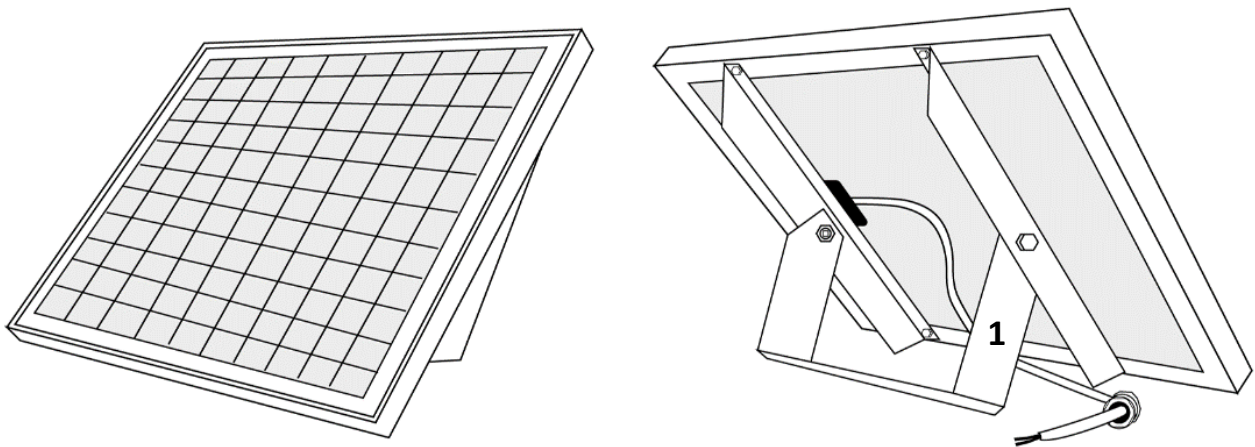

Figure 14: Mounting brackets for solar panel
The solar panel structure can be assembled by installing the U-shaped bracket (1) to the horizontal bars of the solar panel as shown (Fig.14). Attach the collar to the U-shaped bracket and mount the solar finalized panel structure with provided screws. The inclination of the solar panel is adjustable. Taking the vertical axis as a reference, it is possible to choose a 30° angle (recommended in snowy areas or for high latitude installations), a 45° angle (recommended for mid-latitudes), and a 60° angle (recommended for the tropical zone). The solar panel must be facing towards south direction to guarantee the maximum recharge of the backup battery during daylight. Firmly close the collar especially in windy areas to prevent changes in direction of the solar panel.